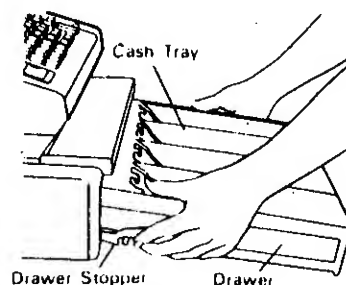

Fig. 9
■ Removing the Drawer (Fig. 9)